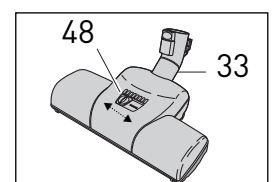

Figure 21
### Turbo Nozzle (optional) - Figure 21
The Turbo nozzle (33) has an air-driven rotating brush for gentle brushing of carpets. The Turbo nozzle can be adjusted for high and low pile carpet. To adjust the head for high pile carpet, push the slider button (48) to the right. For low pile carpet, push the slider button (48) to the left. **The slider in Figure 21 is set in the low pile position.** Remove the Turbo nozzle from the telescopic tube to clean. Remove fibers and hair from the brush manually.